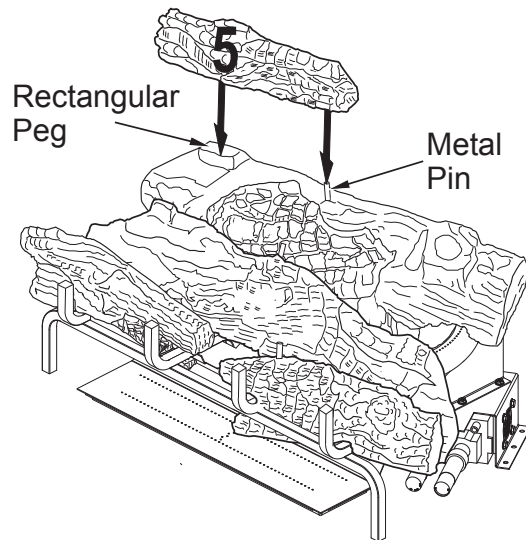

Figure 26 - Installing Log # 5
- Place the left back top log (#5) on top of the rear log (#1). Match the rectangular peg on top of the left side of the rear log (#1) with the rectangular hole on the bottom of the left back top log (#5). Match the metal pin on the top of the middle log (#2) with the round hold in the bottom of the left back top log (#5). See **Figure 26**.